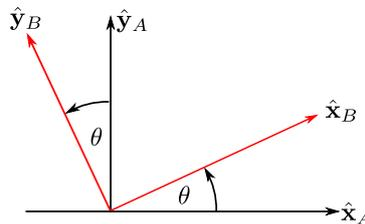

Figure 1: Reference frame F_B is rotated by an angle θ relative to F_A
- Consider Fig. 1 that shows two collocated reference frames F_A and F_B with θ (measured counter-clockwise from the \hat{x}_A axis to the \hat{x}_B axis).